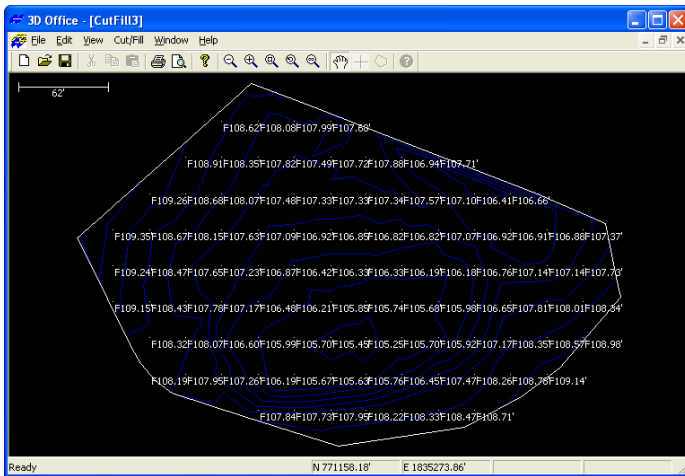

**Figure 10-7. Select Surface to Compare**
- On the **Open** dialog box, navigate to the folder in which the file resides, select the *Files of type* from the drop down list (either TN3 files, PL3 files, or RD3 files), select the desired file and click **OK** (Figure 10-7).